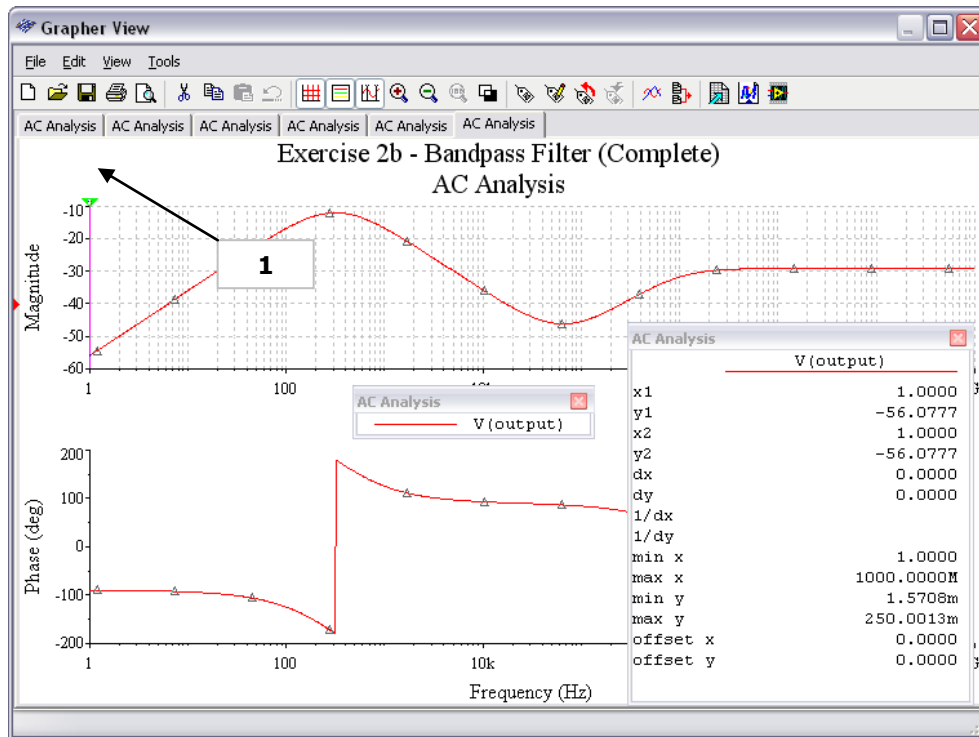

Figure E2-22. Grapher View with grid, legend and cursors
4. Click on the **Show/Hide Cursors** button (Figure E2-20-3). The value box will appear, displaying the various x and y co-ordinate values as measured by the cursors (Figure E2-22).